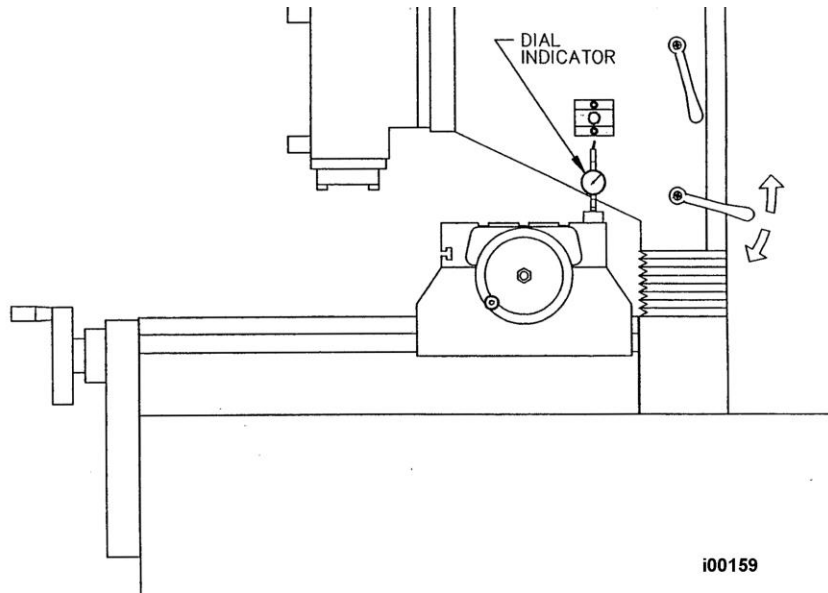

Figure 5-43 - TRM, DPM, DPM5, Sport B3, Sport B5, DPMS3, & DPMS5 - Ram Side Gib Adjustment
2. Attach a .0001 dial indicator with a magnetic base towards the rear of the table on the right side of the ram. Place the indicator stylus on the ram in line and below the lower mounting bolt for the coolant hose connector block. (See Figure 5-43).